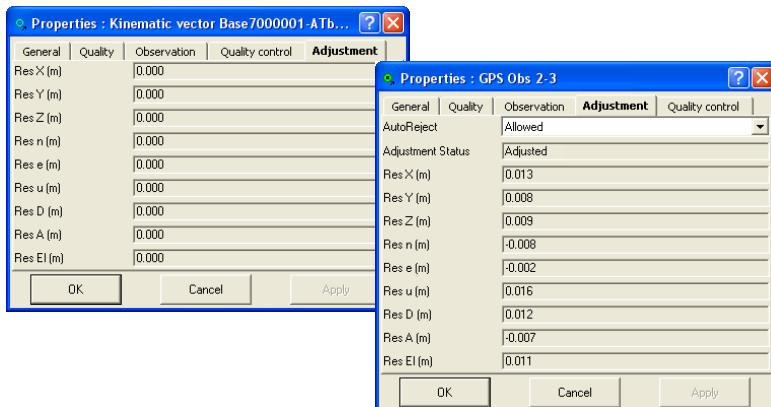

Figure 5-109. Adjustment Properties
- View or edit *Adjustment* tab fields, which differ depending on the type of observation selected: for static observations, set the AutoReject option and view the status and residuals for the observation; for kinematic observations, only residuals information displays. Select the *AutoReject* parameter as needed (Figure 5-109).